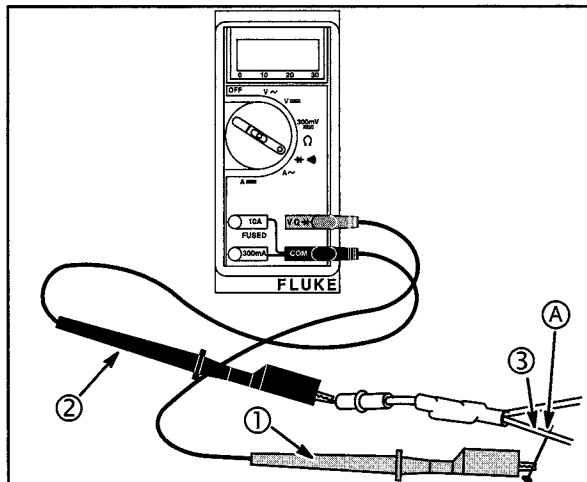

Fig. 22
4. Attach RED test lead clip (1) to point A, of the WHITE wire (3) **Fig. 22**. (It may be necessary to pierce wire with a pin as shown.)
5. Insert BLACK test lead probe (2) into harness connector.